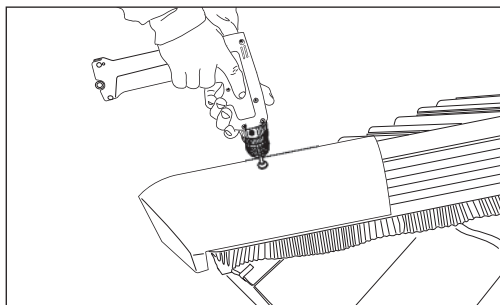

Fig 11 Fixing Block End Hip tile
- 10 Fit a purpose designed Block End Hip tile tight against eaves tiles and trim the Block End if required. Fix Block End Hip tile through HipFast Hip Support Tray to hip batten using 75mm x 4.8mm screw and sealing washer provided. Tighten securely to ensure a firm seal (Fig 11).